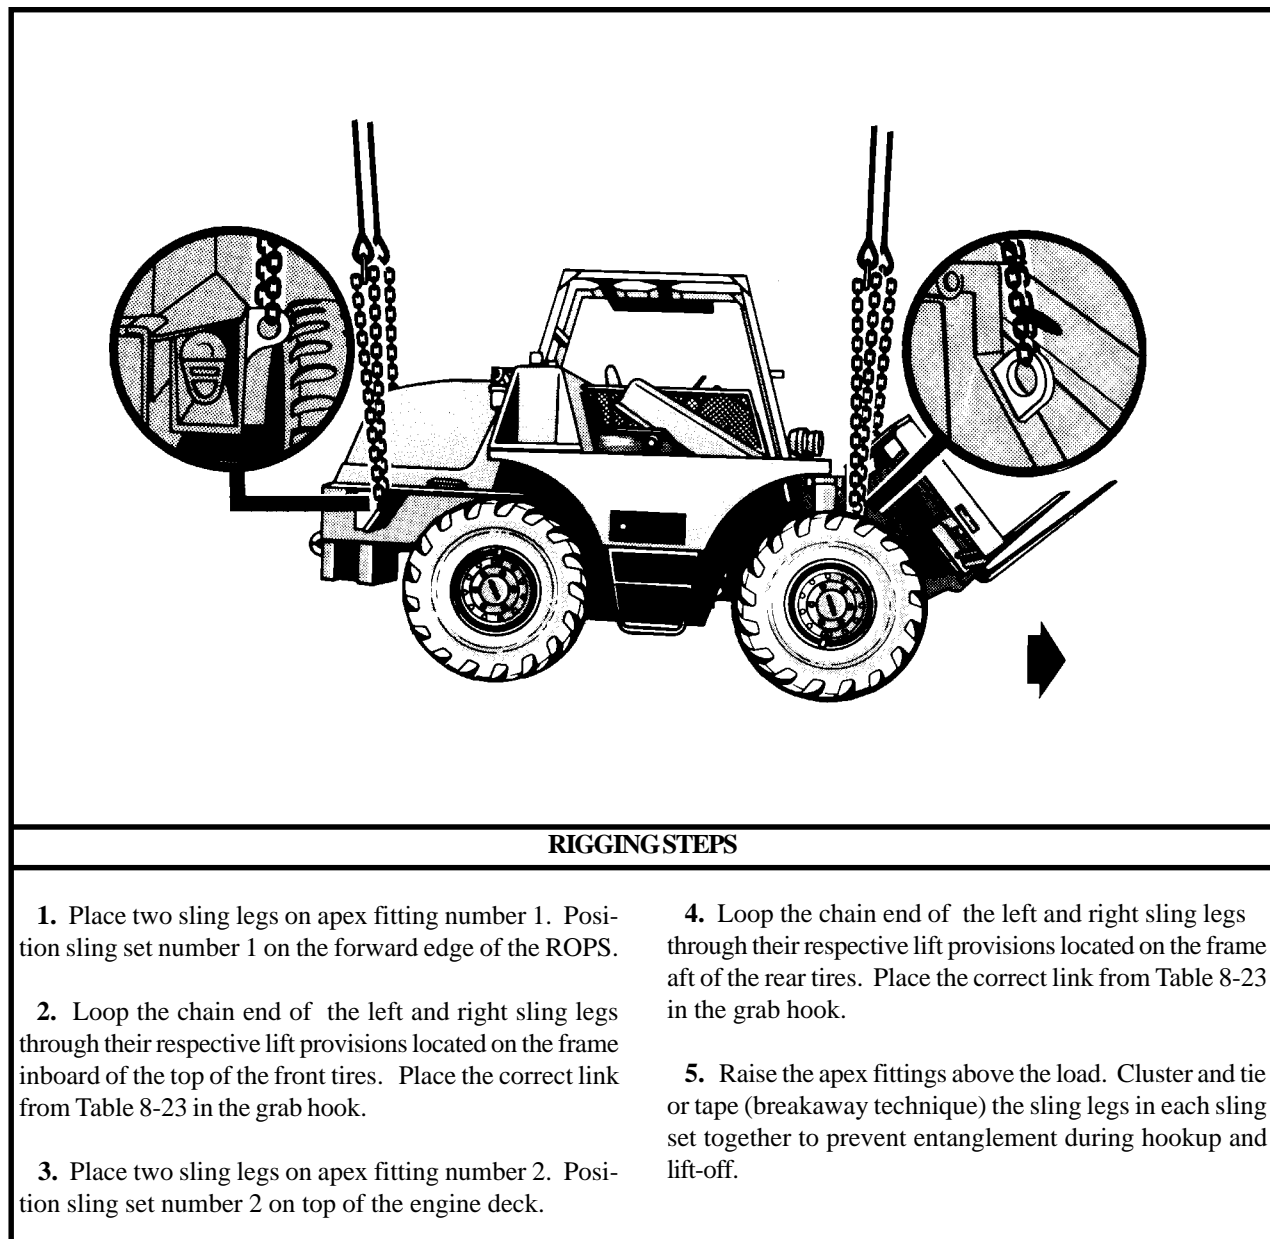

Figure 8-23. Truck, Forklift, MC-6000
(2) **Rigging.** Rig the load according to the steps in Figure 8-23.
(4) **Derigging.** Derigging is the reverse of the preparation and rigging procedures in steps d (1) and d (2).